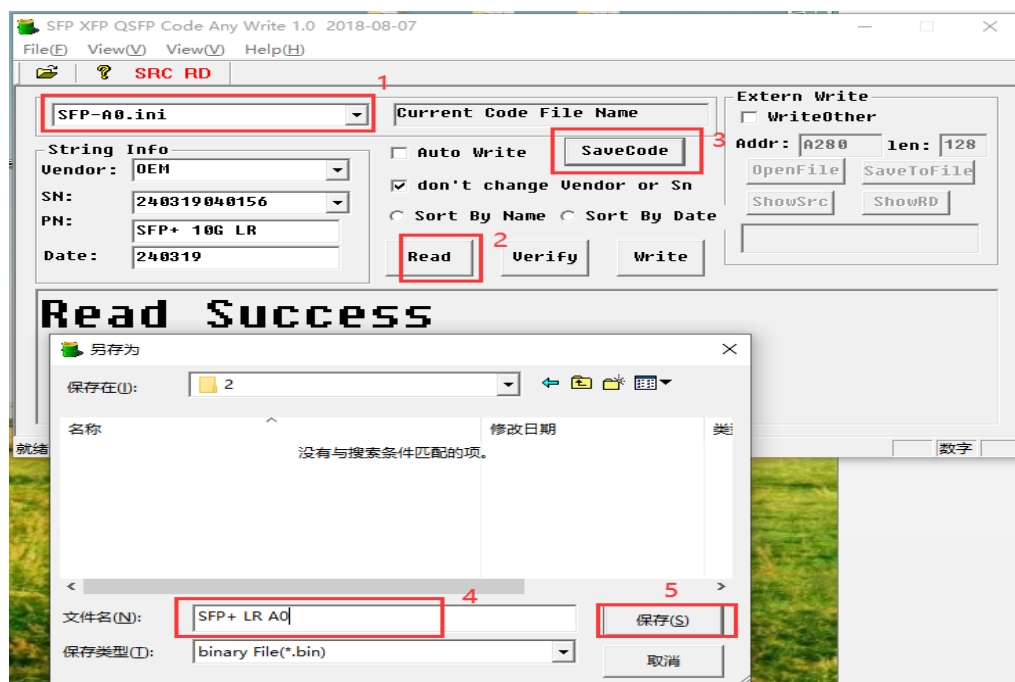

Figure 8
2.1 Select the configuration file corresponding to the SFP optical module. For SFP/SFP+/SFP28/SFP56 series optical modules, you can use the "SFP-A0" configuration file to read the code (as shown in Figure 8).
2.2 Click the "Read" button (as shown in Figure 8)
2.3 Click the "Save Code" button (as shown in Figure 8)
2.4 Name the code (as shown in Figure 8)
2.5 Save the code to your computer (as shown in Figure 8)